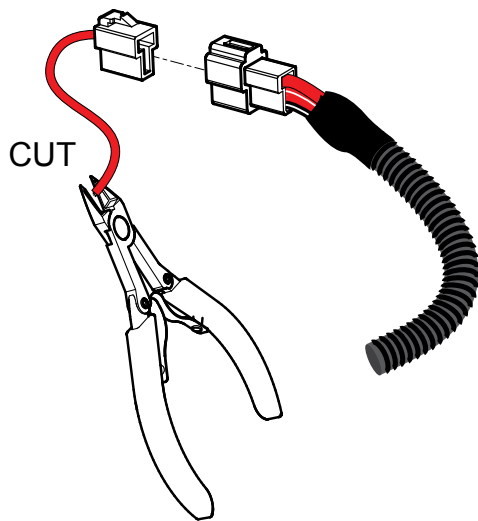

Figure 8. Cutting Starter Switch Wire
2. On the back of the starter switch, locate the red 30 wire (Figure 8) and follow the wire to the starter switch connector.
4. Using a pair of wire cutters and strippers, cut the red wire (Figure 8) approximately one inch from the bottom of the bottom half connector.